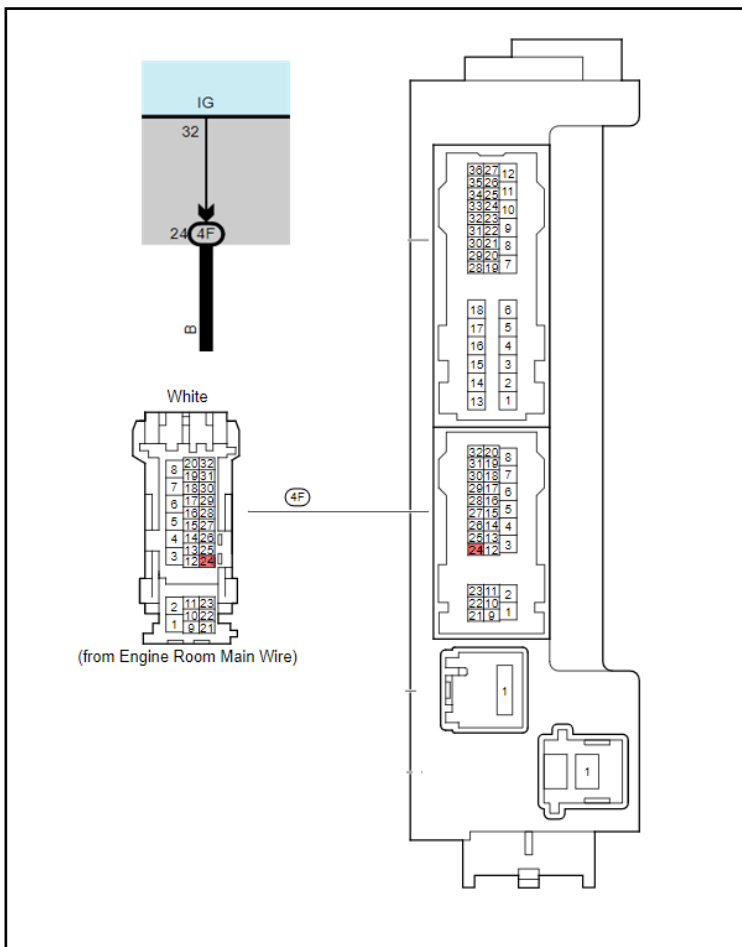

Figure 29
39. Using a Black T-tap, connect the Yellow wire from the foot-well harness to the Black wire in Pin 24 of the 4F connector in the JB. See Figure 29.